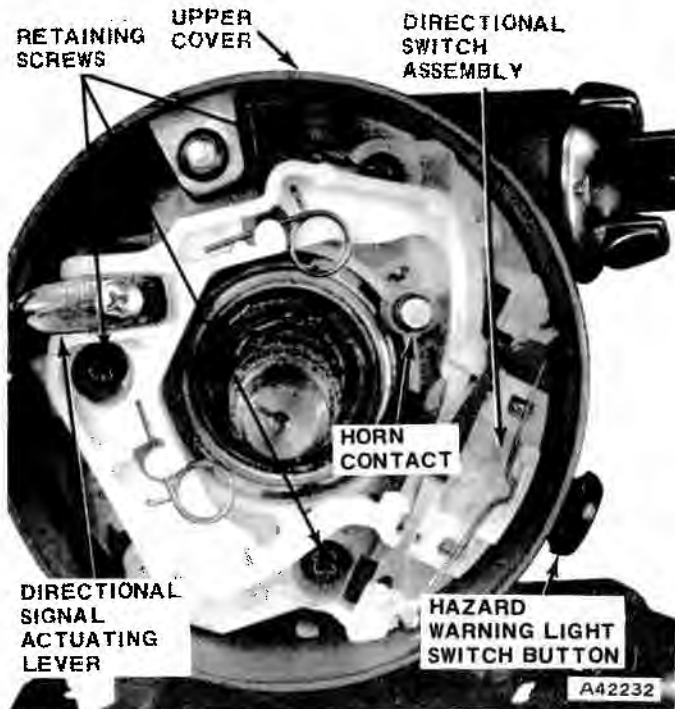

Fig. 3-79 Directional Switch
- (10) Place directional signal actuating lever in right turn position and remove lever.
- (11) Depress hazard warning light switch, located on right side of column adjacent to the key lock, and remove button by turning in a counterclockwise direction.
- (12) Remove directional signal wire harness connector block from its mounting bracket on right side of lower column.
(13) Remove directional signal switch retaining screws and pull directional signal switch and wire harness from column (fig. 3-79).